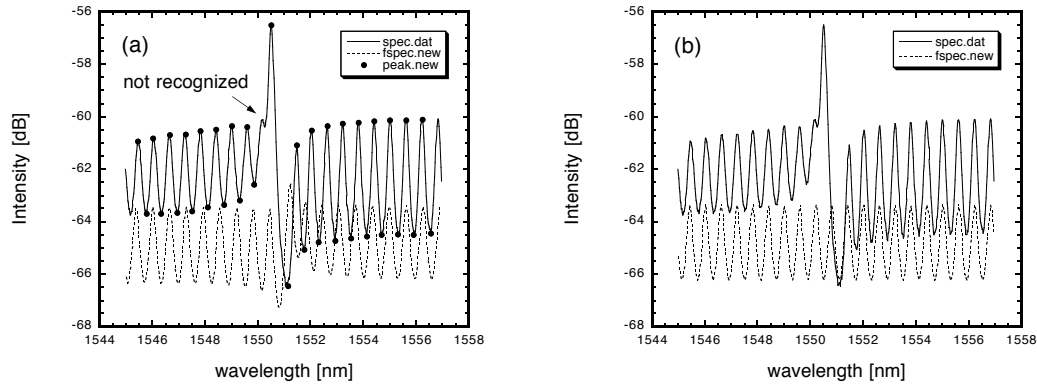

Fig. 2: (a) Misread FP peak, (b) use **-f 1** flag
6. Display **spec.dat** and **fspec.new** and **peak.new** in the same graph. And you can see that one small peaks are not recognized and calculated FP peaks are shifted from measured one (Fig.2(a)). It is because this program recognize that small peak as just a noise.
8. Display **spec.dat** and **fspec.new** in the same graph to confirm initialized parameters are appropriate (Fig.2(b)). (**peak.new** was removed.)